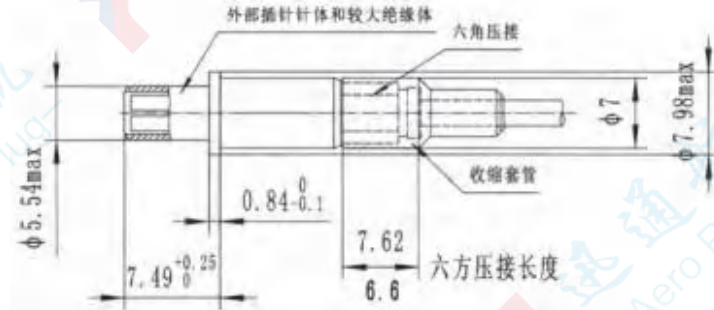

图38
⑥ As shown in Figure 38, proceed as follows::